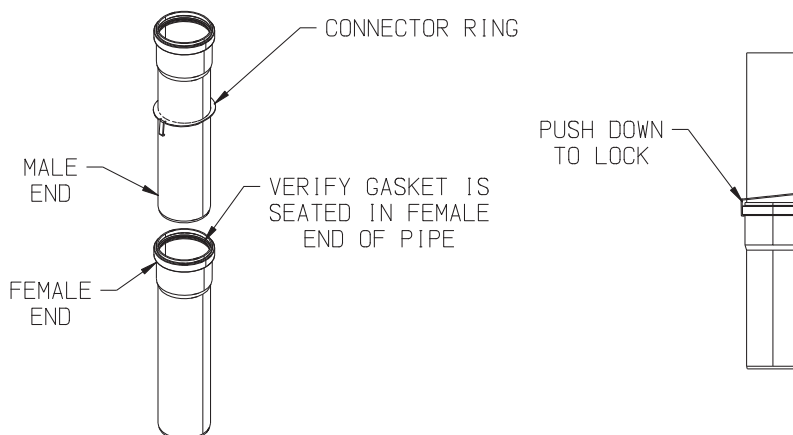

FIGURE 7.32: INNOFLUE CONNECTOR RING INSTALLATION
- c. For each joint, verify that the gasket is evenly seated in the bell (female) end of the pipe. Lubricate this gasket with Centrocerin # IACE50. Slide a connector ring over the male end of the pipe to be joined as shown in Figure 7.32. Push the male end of the next section of pipe into the bell until it bottoms out, then back out 1/4" to provide room for thermal expansion. Push hook on connecting ring over the bell end of the first section of pipe as shown in Figure 7.32.